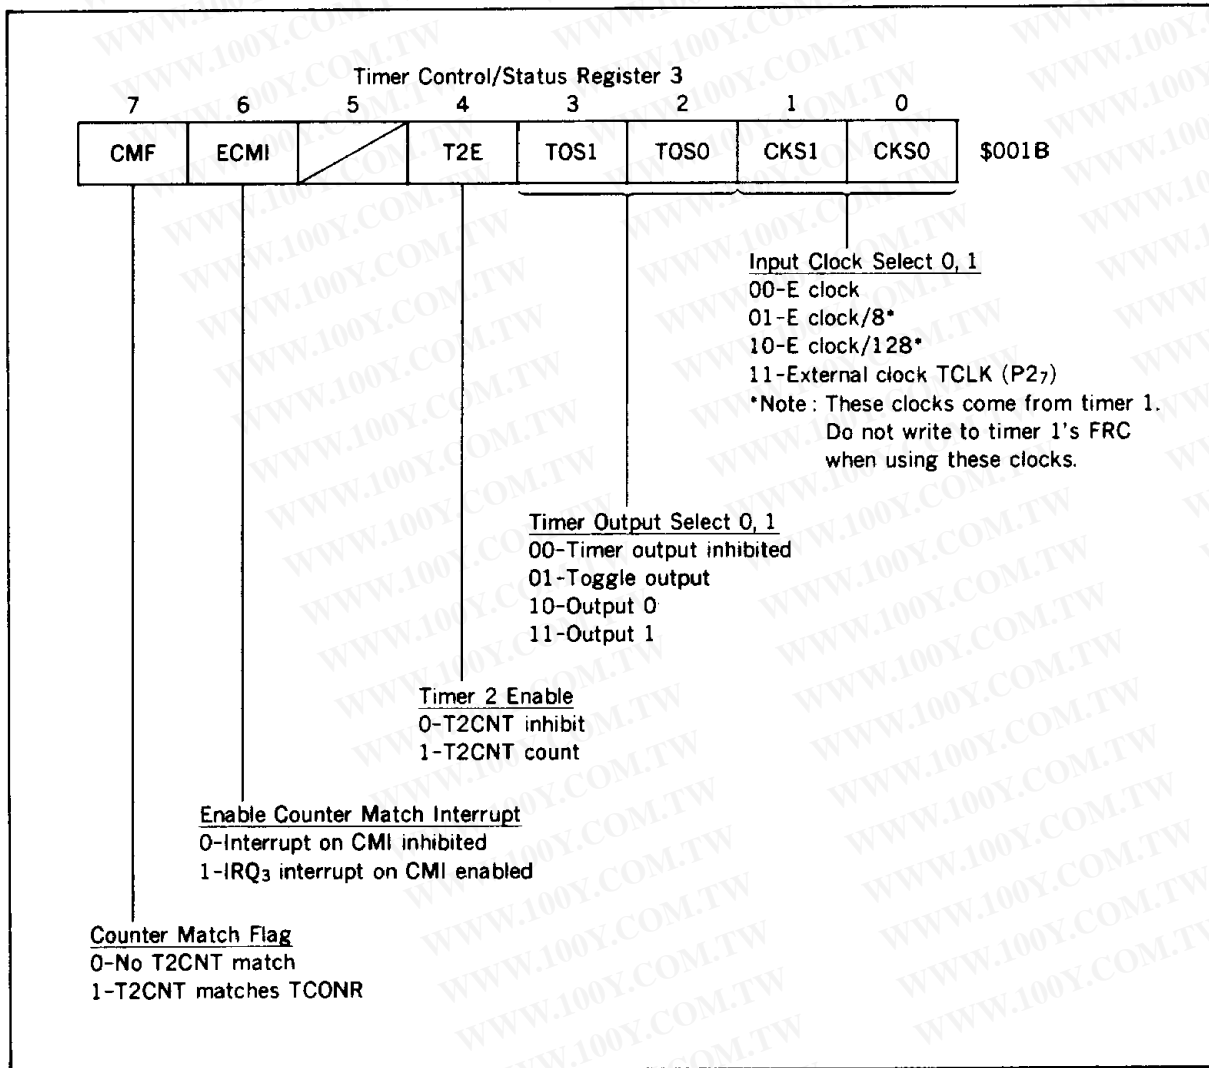

Figure 30. Timer Control/Status Register 3
Timer Control/Status Register 3 : Timer control/status register 3 (TCSR3: \$001B; figure 30) is a 7-bit register. All bits can be read and all bits except for bit 7, CMF, can be written to. CMF can only be cleared, not set. The TCSR3 is cleared at reset.
- CKS0, CKS1: CKS0 and CKS1 select timer 2's input clock as shown in figure 30. When an external clock is selected, P2₇ will be the clock input automatically.
- TOS0, TOS1: TOS0 and TOS1 select the output that occurs on a counter match as shown in figure 30.